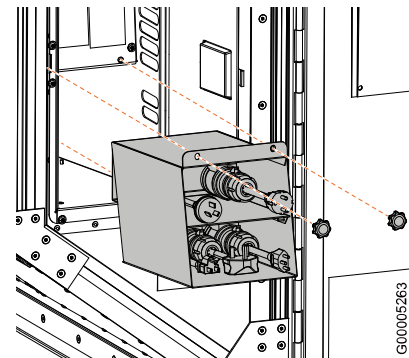

Fig. 31
10. Return the adapter case including all adapters, and mount the thumbscrews (**Fig. 31**).